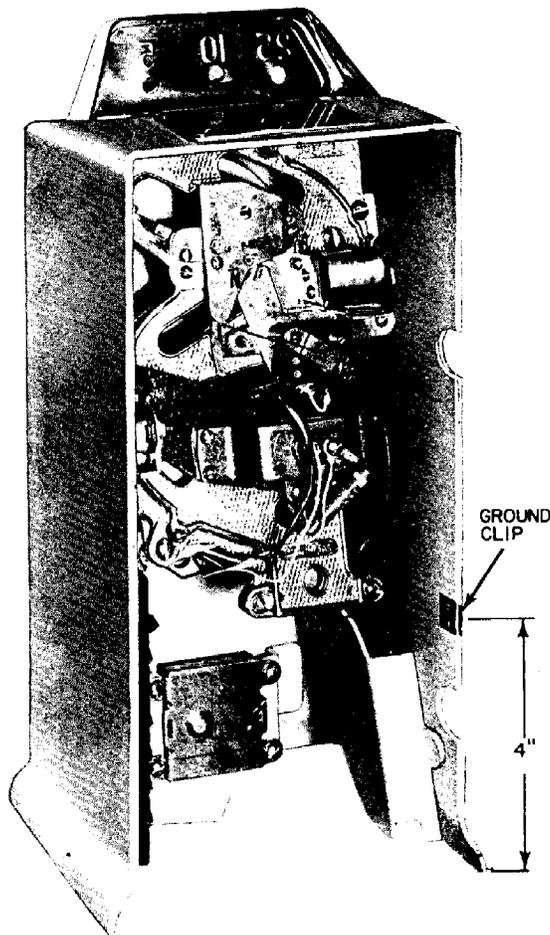

Figure 2. Ground Clip Attachment.
- (1) Solder a spade terminal (D-15830-A) to each end of an 11-inch #14 wire. Terminate one end under a mechanism base machine screw. Route the wire to avoid the coin chute opening and terminate the other spade terminal at terminal strip ground terminal G. Solder a spade terminal to one end of a #14 wire (wire length sufficient to reach from terminal G through the lower housing wire opening and to the protector ground terminal). Terminate the spade terminal at terminal G. Route the #14 wire through the lower housing wire opening and wrap the end of the wire around the protector ground terminal.
- (2) At the point on the edge of the upper housing which will contact the equalizing spring when the upper housing is installed (see Figure 2), remove sufficient paint from the inside surface so that a ground clip can make contact with the metal of the upper housing. Place a Tinnerman